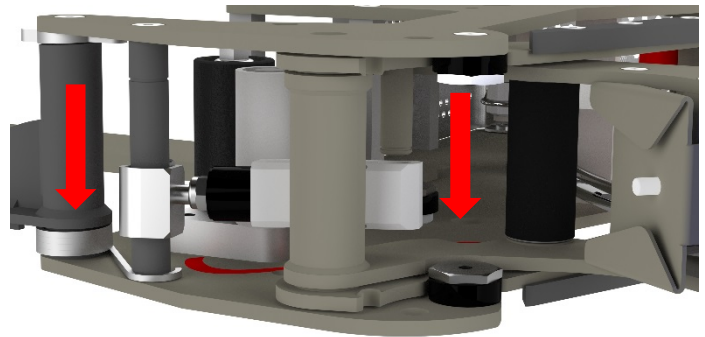

Figure 10-7
2. Slide off the repulsive pivot assembly from current position as shown in Figure 10-7.